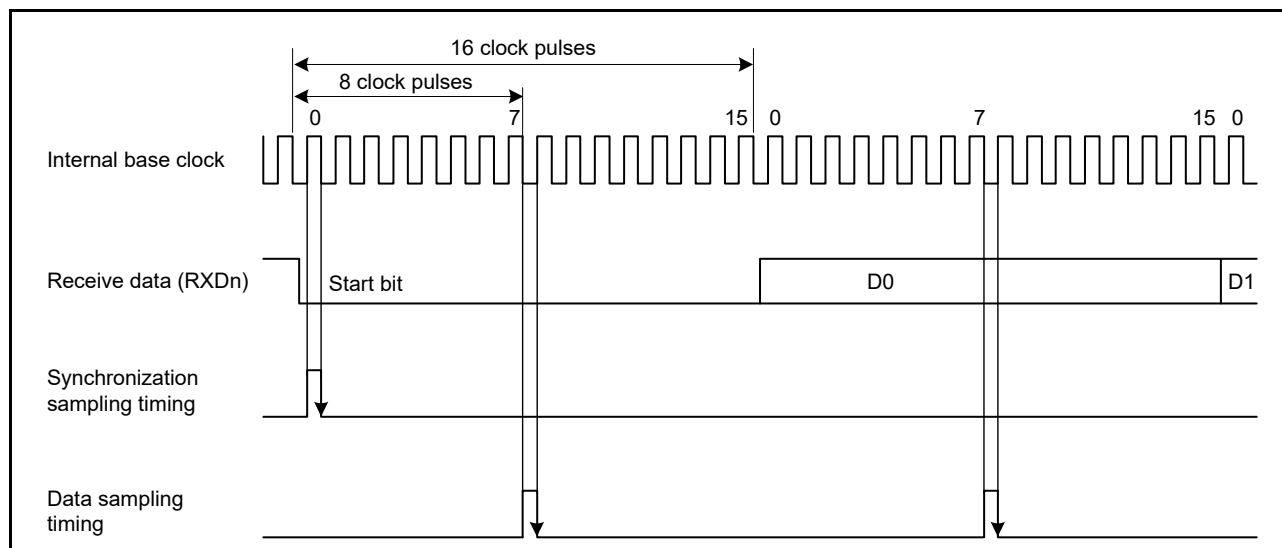

Figure 27.3 Receive data sampling timing in asynchronous mode
Because receive data is sampled on the rising edge of the 8th pulse*1 of the base clock, data is latched at the middle of each bit, as shown in Figure 27.3. The reception margin in asynchronous mode is determined by the following formula (1):